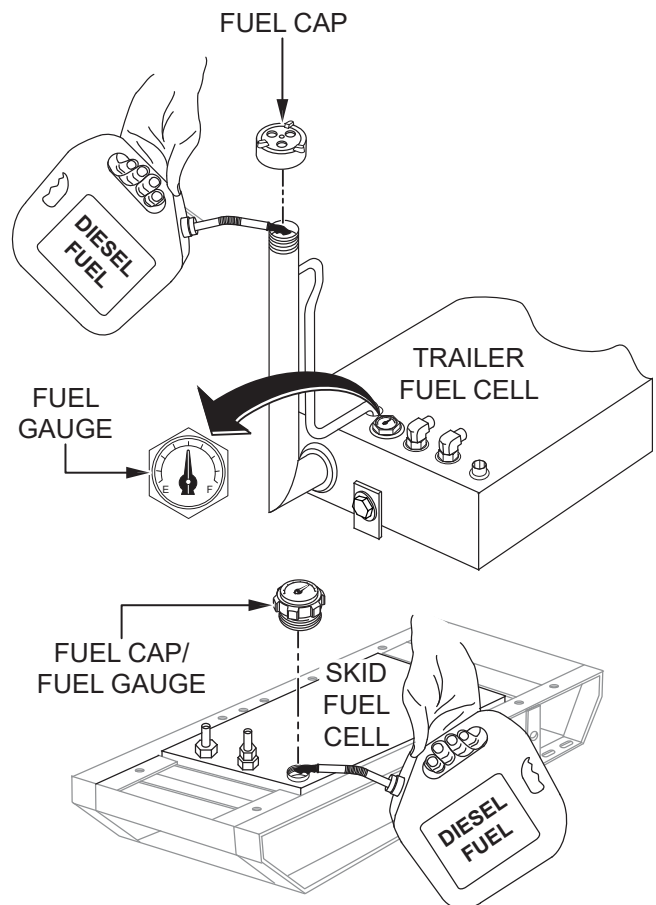

Figure 10. Fuel Inspection
1. Read the fuel gauge located at the front of the trailer or skid (Figure 10) to determine the engine fuel level. If the fuel level is low, remove the fuel cap and fill with the recommended diesel fuel shown in Table 2. **DO NOT** overfill.